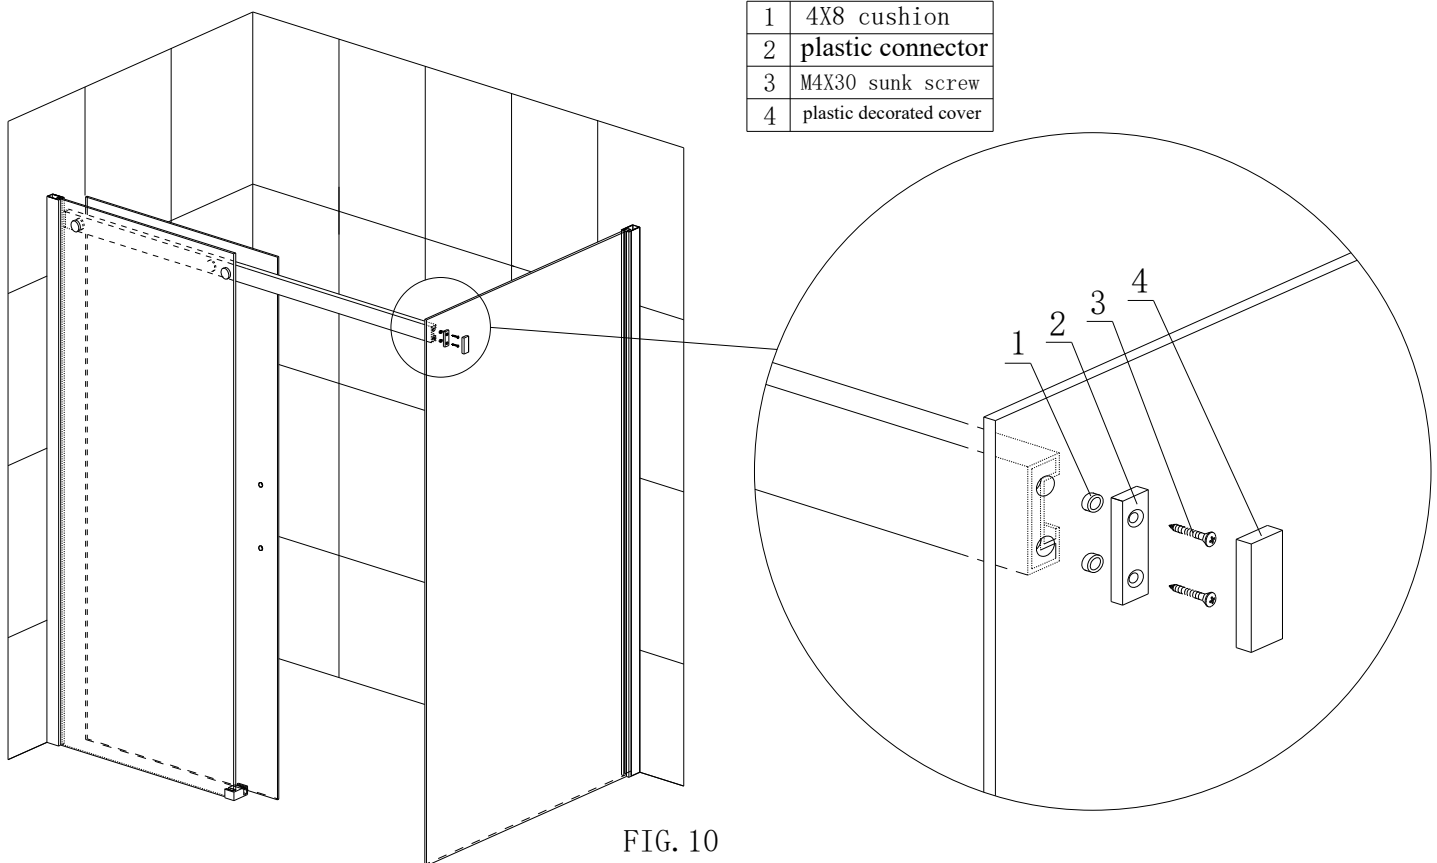

FIG. 10
10) Connect the rail with the side fixed glass door. As Fig. 10